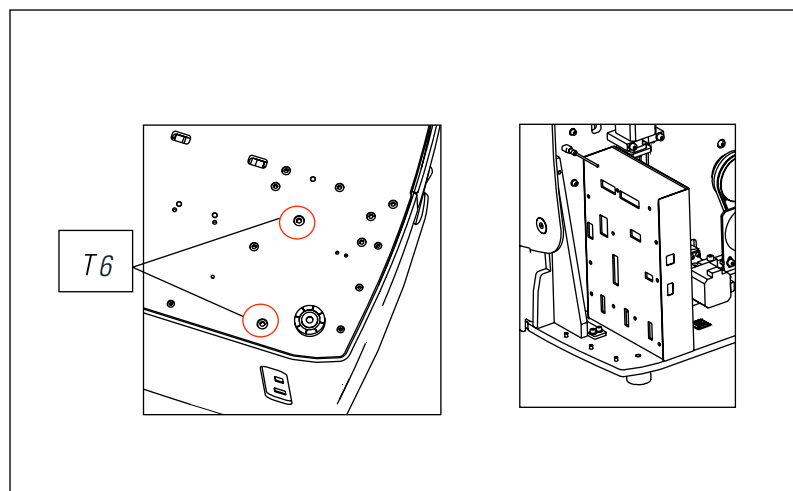

FIG. 22
- 3) Release the two screws (T6) with a 5mm Allen key (Fig. 22)